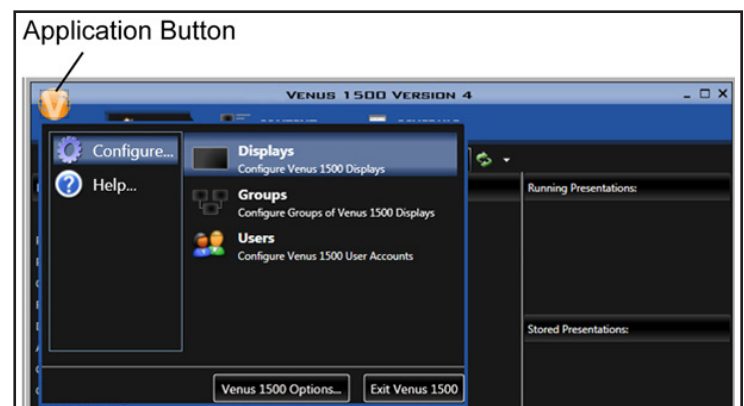

Figure 10: Begin Display Configuration
2. Click the **Application** button, highlight **Configure**, click **Displays**, as shown in **Figure 10**.